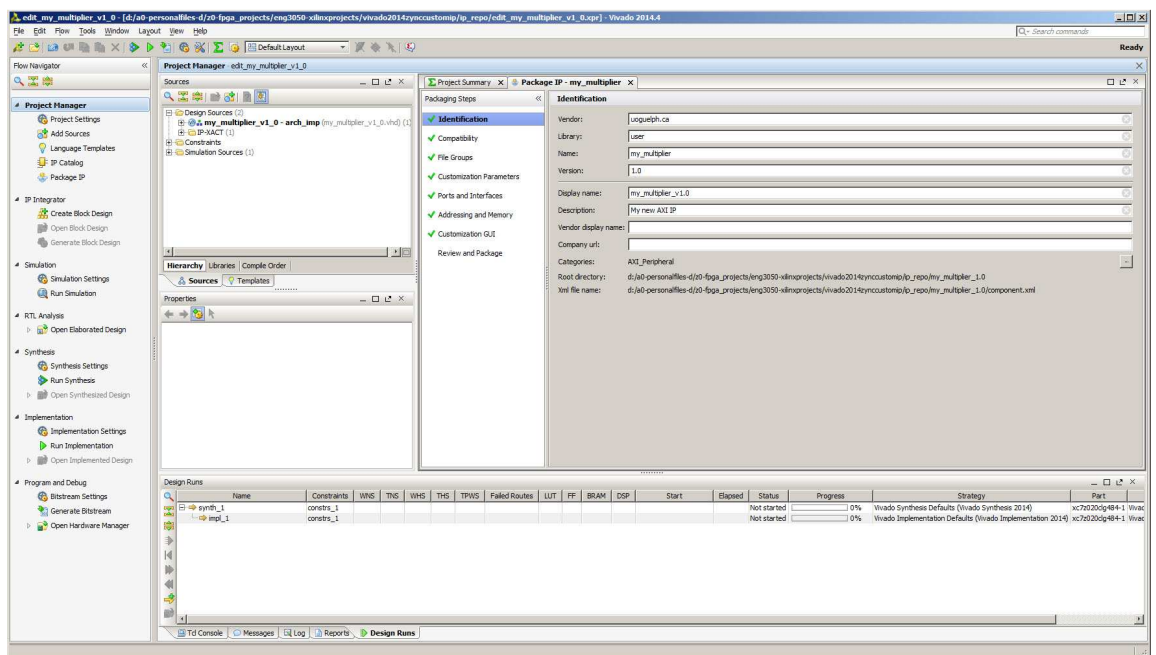

Figure 19: Summary of IP
- At this point, the peripheral that has been generated by Vivado is an AXI Lite Slave that contains 4 x 32 bit read/write registers (as seen in **Figure 19**). We want to add our multiplier code to the IP and modify it so that one of the registers connects to the multiplier inputs and another to the output.